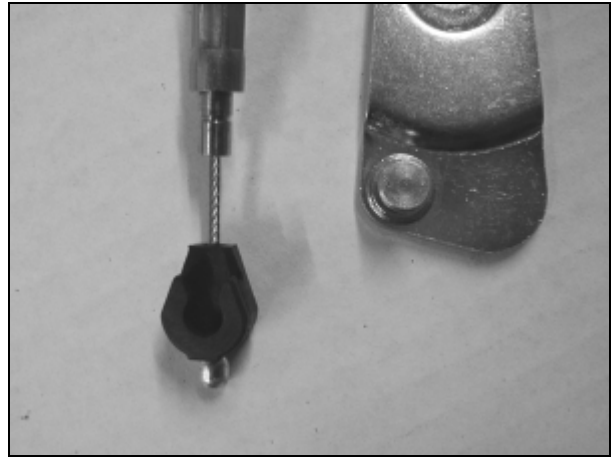

Figure 11. Cruise Cable End and Wheel Pin
22. See Figure 11. Install cruise cable end fitting onto wheel pin on cruise control wheel pin bracket (if carburetor equipped), or onto wheel pin of throttle wheel (if fuel injected). It will